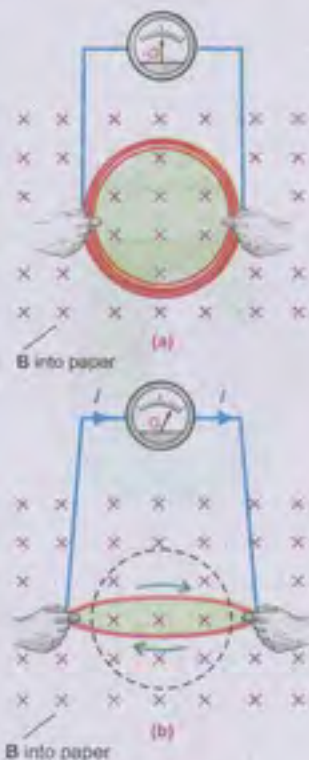

Fig. 15.3
2. There is another method in which the current is induced in a coil by changing the area of the coil in a constant magnetic field. Fig. 15.3 (a) shows that no current is induced in the coil of constant area placed in a constant magnetic field. However, when the coil is being distorted so as to reduce its area, (Fig. 15.3 b) an induced emf and hence current appears. The current vanishes when the area is no longer changing. If the distorted coil is brought to its original circular shape thereby increasing the area, an oppositely directed current is induced which lasts as long as the area is changing.